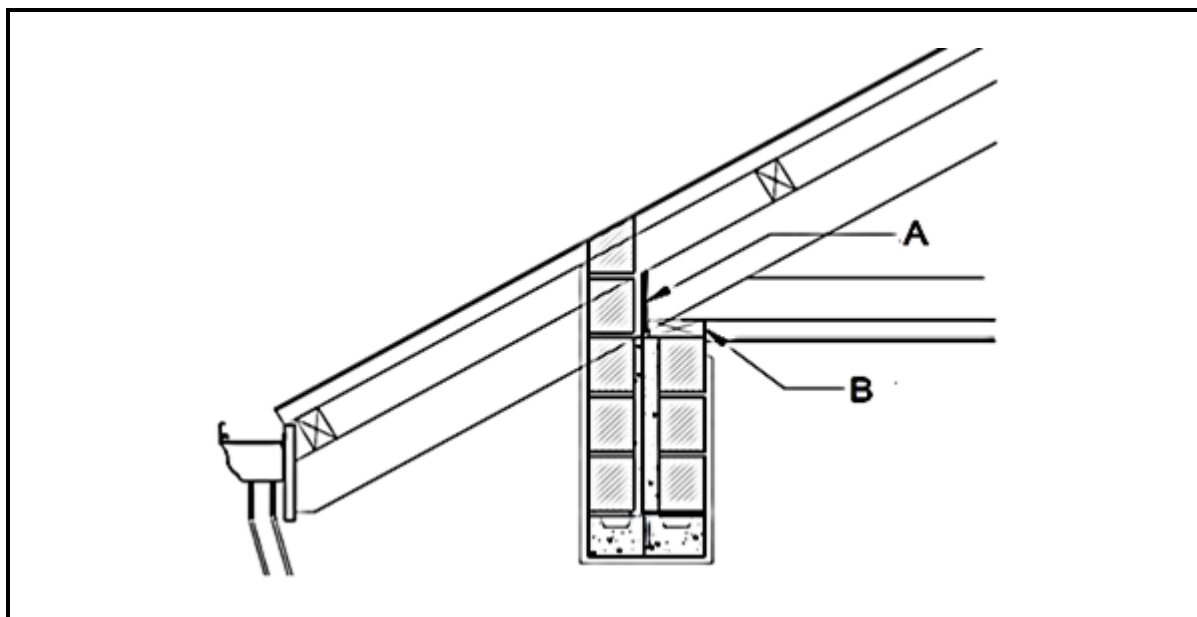

FIGURE 3.9
3.9 Answer the following questions with regard to the construction in FIGURE 3.9.